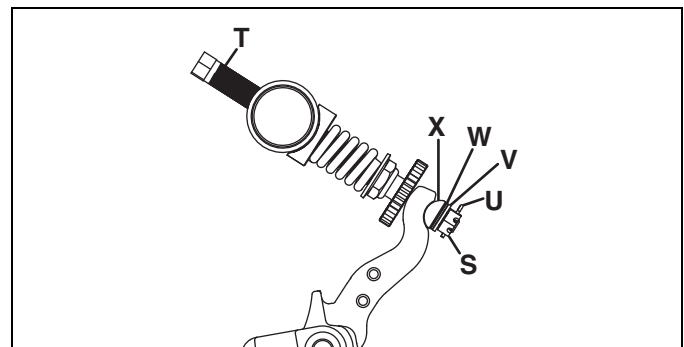

Figure 9G
1. Remove cotter pin **(U)**, slotted nut **(S)**, bellville washer **(V)**, shim washer **(W-if required)**, and half trunnion **(X)**. See Figure 9G